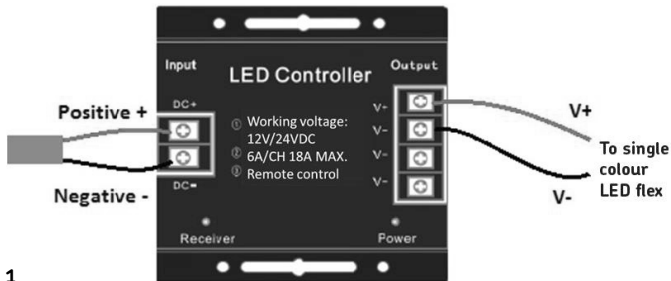

Fig. 1
- Ensuring correct polarity is observed, connect the secondary side of the LED driver to the primary side of the LED controller [(+ Red) (- Black)] (see Fig. 1)
- Terminate the 12V or 24V LED flex to the secondary side of the controller: Red to V+ and Black to V- (see Fig. 1)